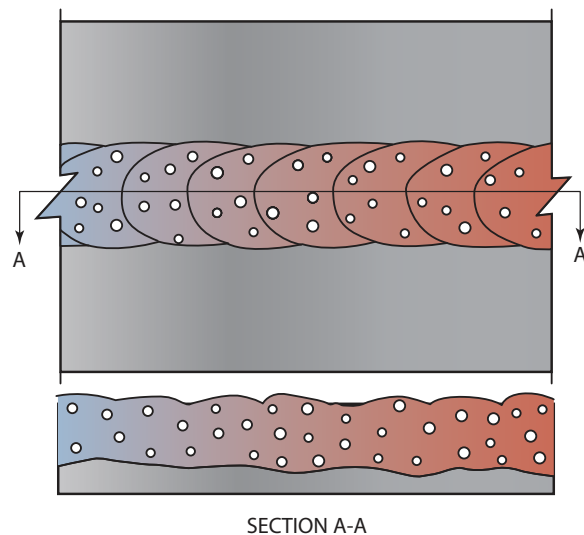

FIGURE 30-1 Uniformly scattered porosities. © Cengage Learning 2012
- Uniformly scattered porosity is most frequently caused by poor welding techniques or faulty materials, Figure 30-1.